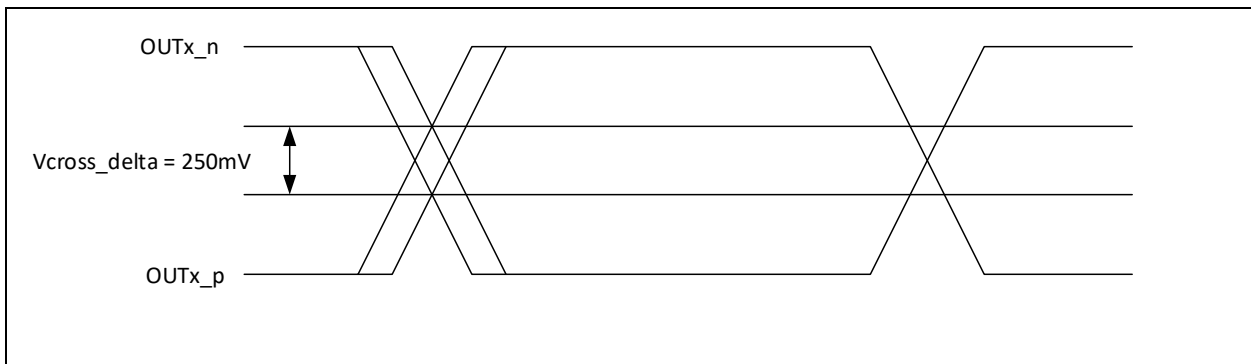
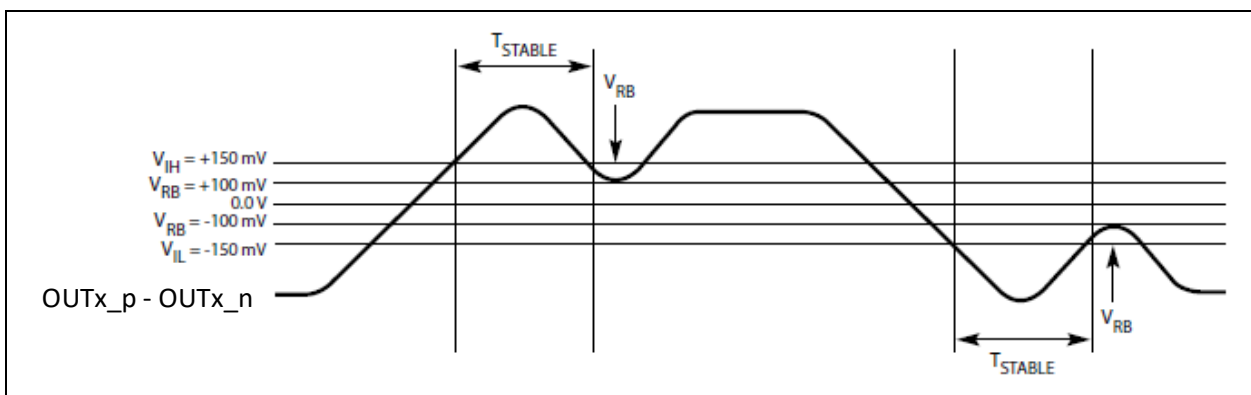

Figure 16. Single-Ended Measurement Points for Delta Cross Point
Figure 19. Differential Measurement Points for Ringback
(9) Defined as the total variation of all crossing voltages of Rising CK and Falling CK# This is the maximum allowed variance in V_{CROSS} for any particular system. See Figure 16.
(10) The PPM requirement from PCIe Express Base Specification, Revision 4.0 is related to clock generation devices. This requirement is not applicable to buffers because buffer's output frequency accuracy is identical to the frequency accuracy of the source driving the buffer.
(11) T_{STABLE} is the time the differential clock must maintain a minimum ±150 mV differential voltage after 20 rising/falling edges before it is allowed to droop back into the V_{RB} ±100 mV differential range. See Figure 19.